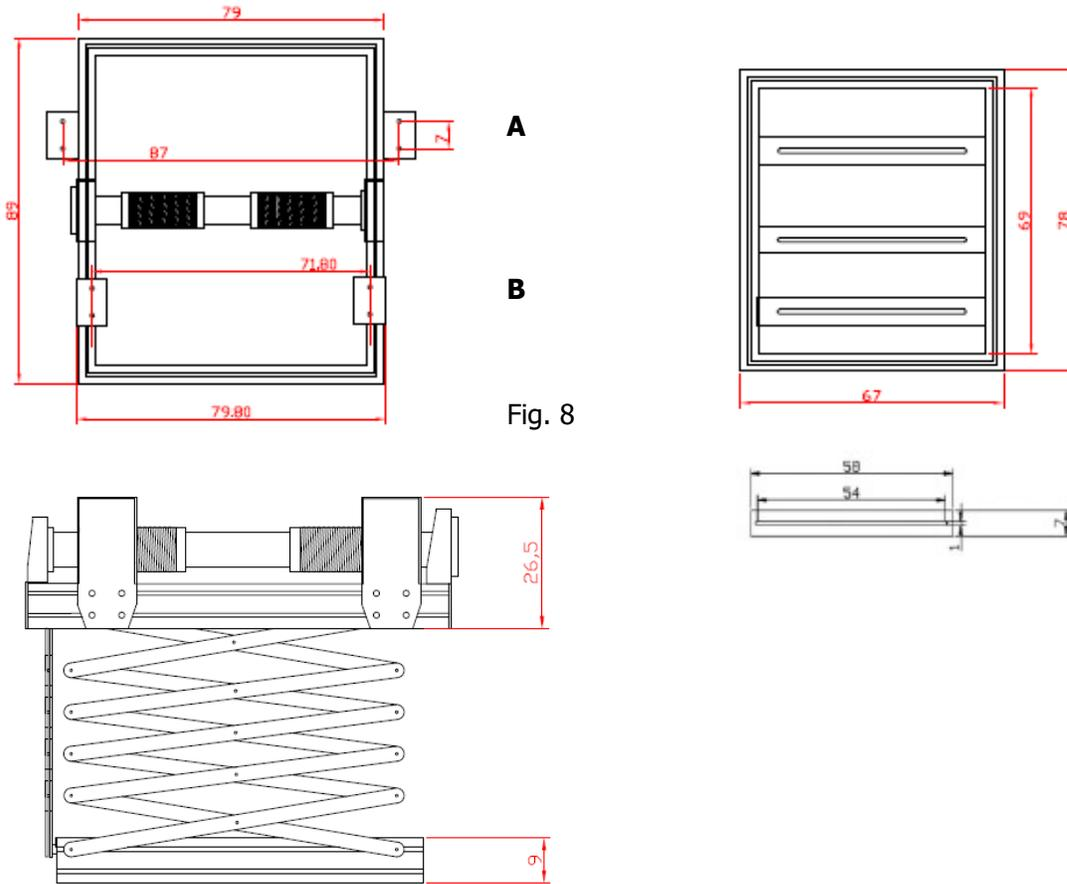

Fig. 8
- 1- Brackets mounted towards outside – Fig. 8-A – page 7
- 2- Brackets mounted towards inside – Fig. 8-B – page 7